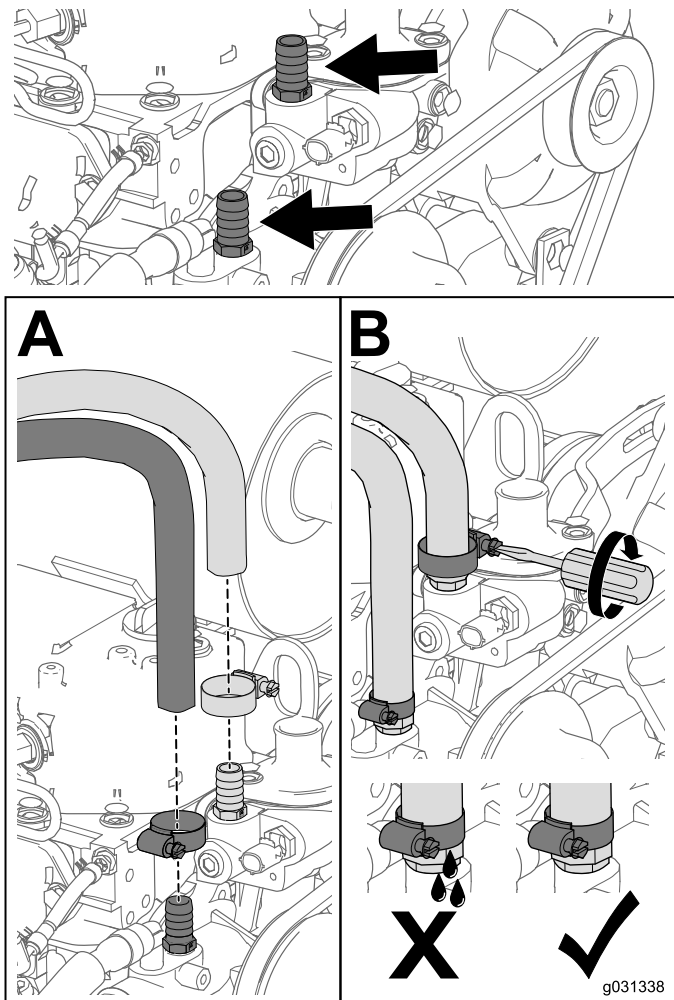

Figure 13
**Note:** Connect the heater hose containing the red plug to the supply port and the heater hose containing the green plug to the return port on the engine as shown in Figure 13.